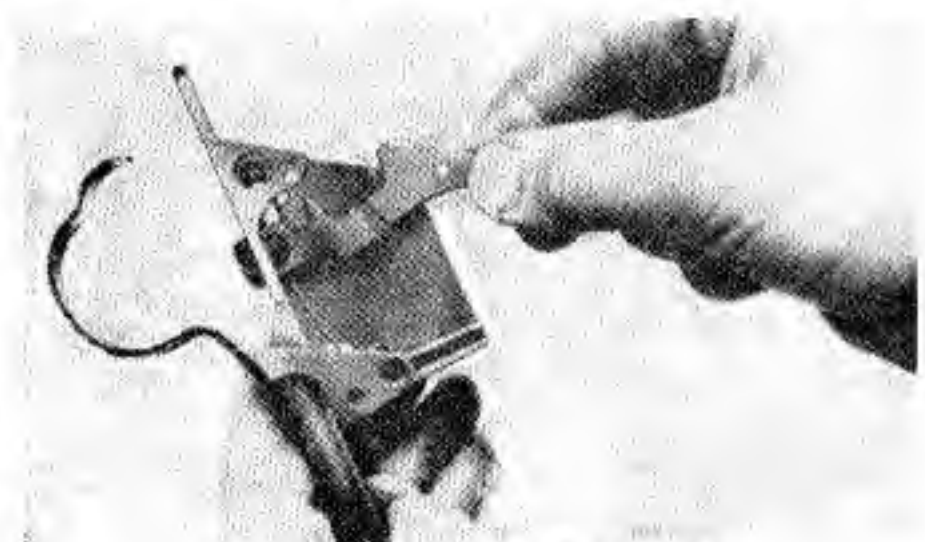

Fig. 75. Removing the safety.
(4) Unlatch and open the trigger guard. Push the top of the safety toward the open face to unseat the stud of the safety from its hole. Remove the safety by lifting it from its slot in the base of the trigger housing (Fig. 75).